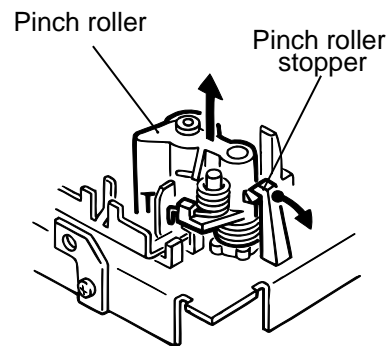

Fig.2
1. Pull out the pinch roller by opening the pinch roller stopper outward to unlock .(Fig.2)